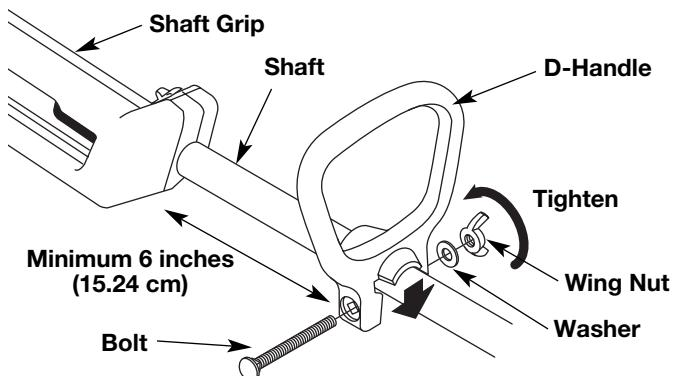

Fig. 1
- Push the D-handle down onto the shaft so that the handle slants towards the shaft grip (Fig. 1). The squared bolt hole in the handle is to the right.
- Rotate the D-handle above the top of the shaft as shown in Figure 1. Place it a minimum of 6 inches (15.24 cm) from the base of the shaft grip.